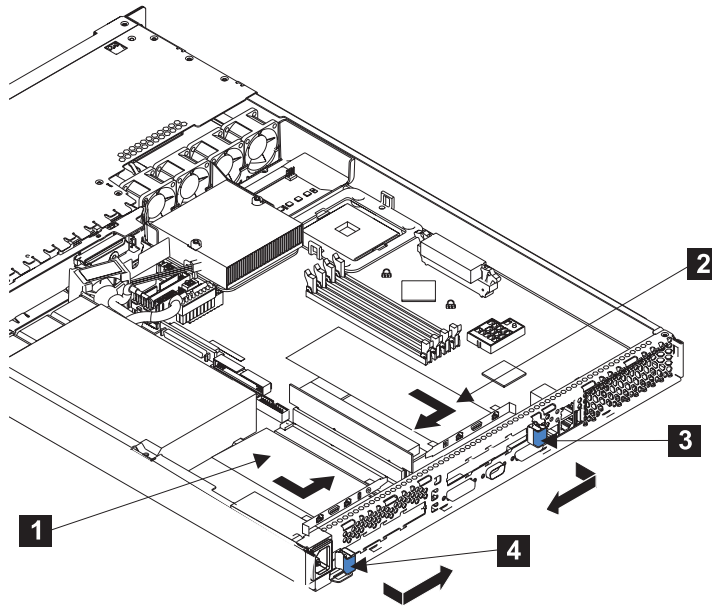

Figure 202. The SAN Volume Controller 2145-4F2 with its adapters installed
- Pivot the expansion-slot clip (**3** or **4** in Figure 202) toward the adapter and press it into place.